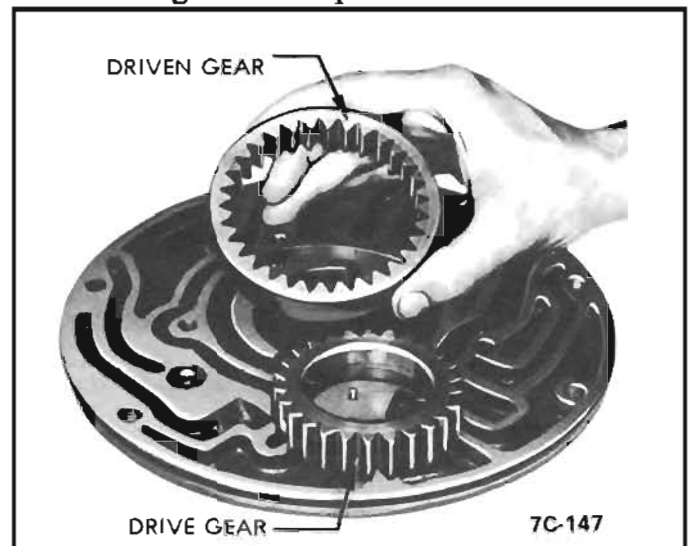

Figure 49 Oil Pump Gears
7. Remove pump drive gear and driven gear from pump body. Inspect pump gears and cover for wear and scoring. *See Figure 49.*
2. Assemble drive gear with tang face up to prevent damage to converter. *See Figure 49.*